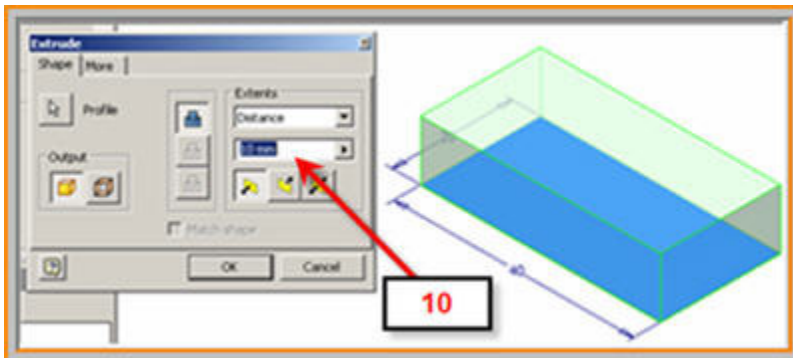

Figure 2: Extruding a Rectangle
Step 4: Create a rectangle with sides 20mm x 40mm and extrude to a height of 10mm as shown in Figure 2.